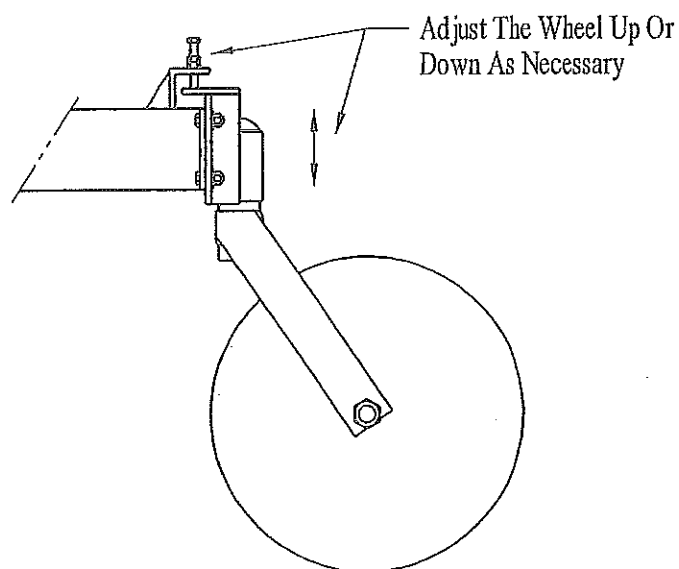

Figure 3.
- The left rear wheel bracket is adjustable. Adjust this bracket up or down as necessary for final side-to-side depth setting of the leveling blade (Figure 3).